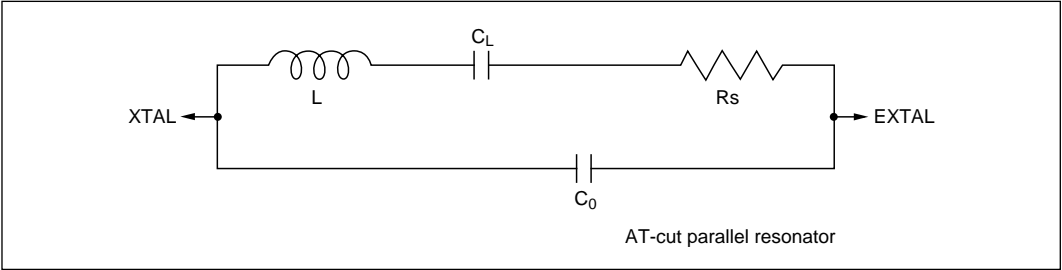

Figure 8-3 Crystal Resonator Equivalent Circuit
(2) **Crystal Resonator:** Figure 8-3 shows an equivalent circuit of the crystal resonator. The crystal resonator should have the characteristics listed in table 8-2.